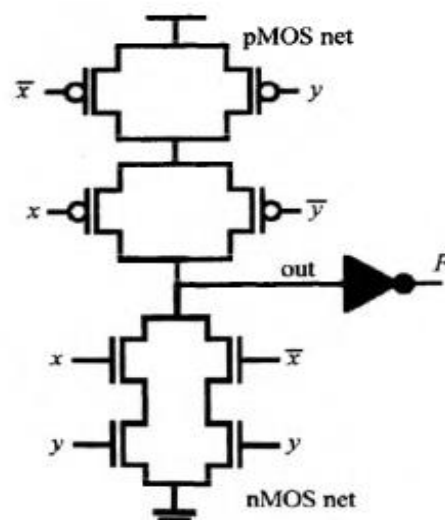

Fig. 5.3
2. Implement the pMOS net as a dual topology to the nMOS net. The pMOS transistors driven by  $\bar{x}$  and  $y$  are connected in parallel, as are the devices driven by  $x$  and  $\bar{y}$  (Fig. 5.3). These transistor groups are connected in series, since they are parallel connected in the nMOS net. The *out* node now implements  $\bar{F}$ .